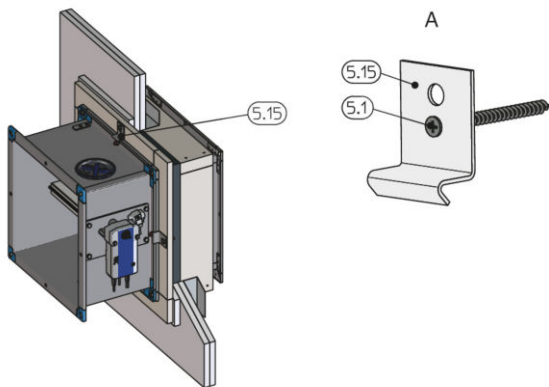

Fig. 100: Fastening the assembly to the metal studs
2. ▶ Attach the fire damper with brackets and dry wall screws to the metal support structure, see Fig. 100.